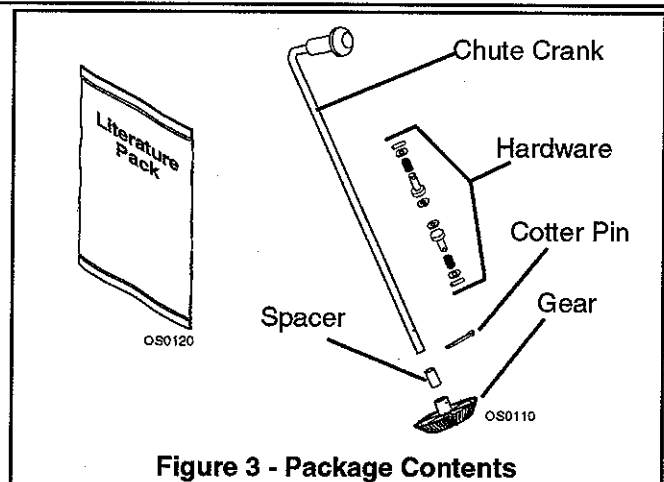
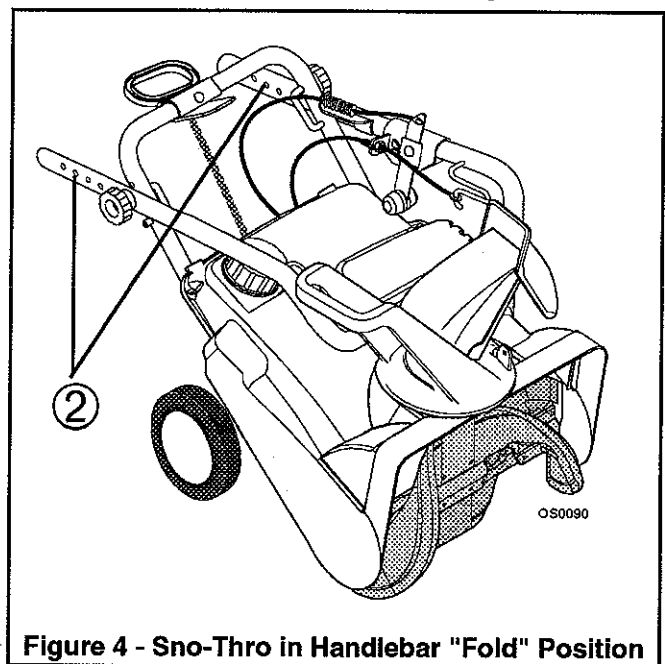

Figure 3 - Package Contents
Figure 4 - Sno-Thro in Handlebar "Fold" Position
Literature Package, Chute Crank Assembly Figure 3 and Ariens Sno-Thro Figure 4.
1. The Sno-Thro is in handlebar "fold" position for shipping. Figure 4.
2. Keep the customer in mind and adjust upper half of handlebar higher or lower by selecting alternate holes for the "J" bolts. Figure 4.